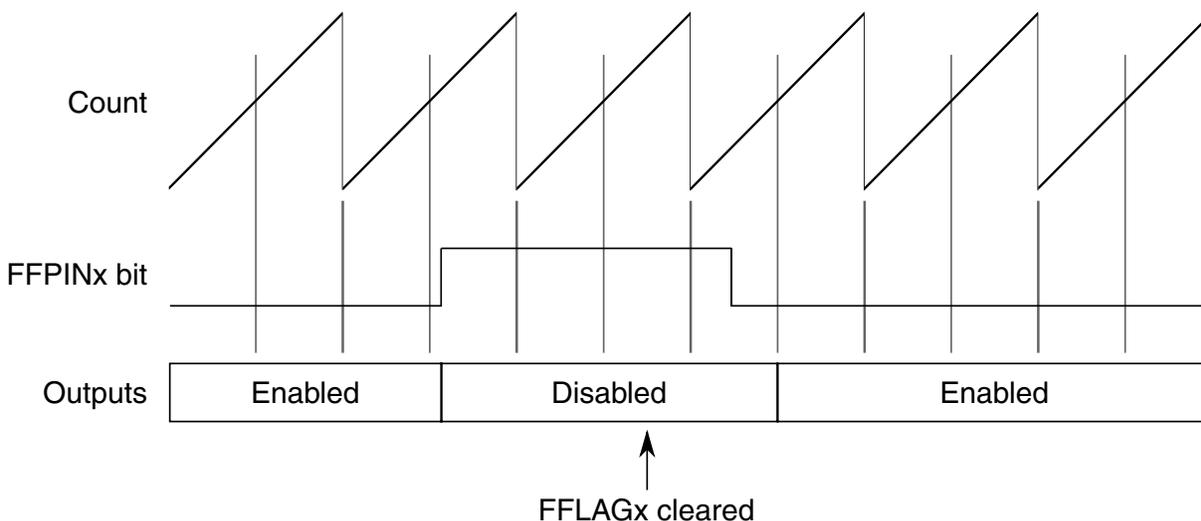

Figure 14. Manual fault clearing example (FCTRL[FSAFEx] = 1)
- The filter detects a logic zero on the FAULTx pin at the start of the next PWM full or half-cycle boundary (see Figure 14). If FSTS[FFULLx] is set, then the disabled PWM pins are enabled only at the start of a full cycle and not at the half-cycle.